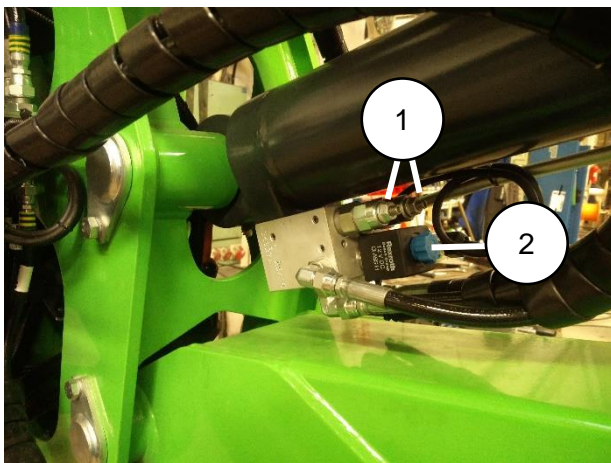

Figure 28 Upper boom cylinder
The lower transport support sensor S10 is located in the rear side of the chassis behind a cover (Figure 28 (1)).
The upper transport support sensor is located in front of the platform near the top of the linkage piece. It is protected by a protective plate and it is not visible from the platform (Figure 28). The sensor is adjusted according to the instructions above.